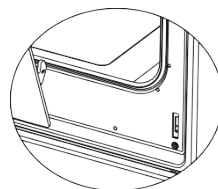

Figure 2.2
6. To easily remove the oven door, when it's almost closed, hold the door in both of your hands and pull it upwards (Figure 2.2).